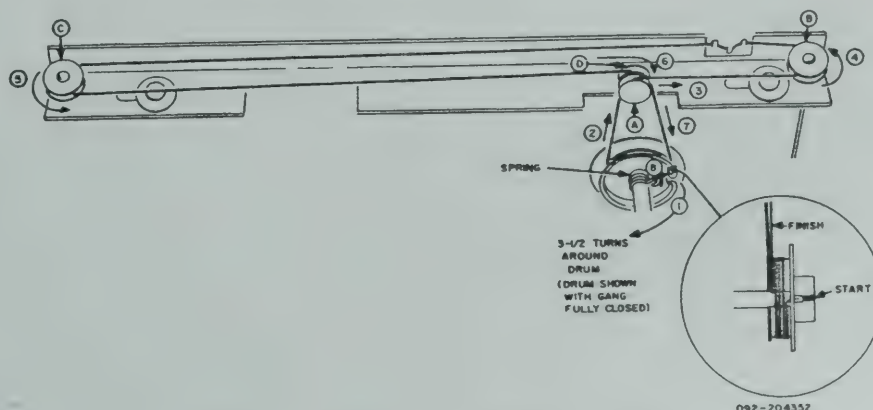

Figure 13. Dial Cord Stringing Diagram
5. Restraining the dial cord as follows (Figure 13):
- (b) Proceed clockwise (1) around the drum 3 1/2 turns and up over wheel "A" (2) to wheel "B" (3).
- (c) Continue around wheel "B" (4) and across to wheel "C".
- (d) Continue around wheel "C" (5) and back across to wheel "D" (6) and down to the tuning drum (7).
- (e) Finish up by routing the cord into the drum slot and attach to the drum spring (8).